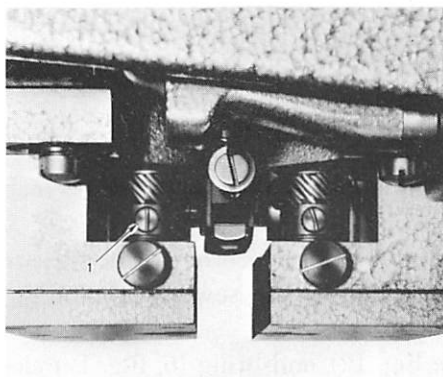

Fig. 19B
Loosen the three set screws (1)—Fig. 19B—, move the hook and set the proper timing. Then, tighten the screws securely.